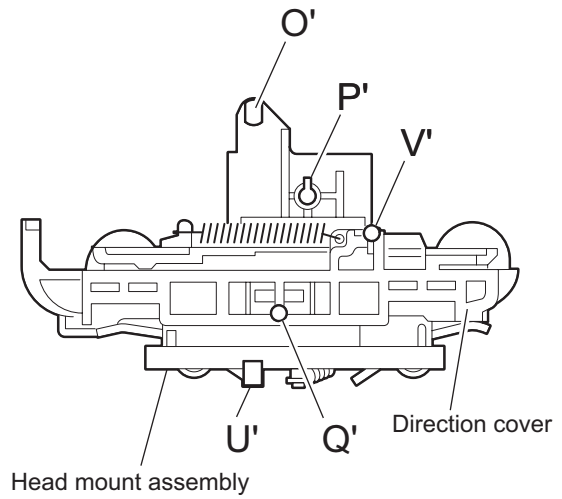

Fig.11
3.4.6 Reattaching the Play/ Record & Clear head (See Fig.11~13)
- (1) Reattaching the head mount assembly.
- b) Fit the bosses **O'**, **P'**, **Q'**, **U'** and **V'** on the head mount assembly to the holes **P** and **V**, the slots **O**, **U** and **Q** of the mechanism sub assembly (See Fig.11 to 13).